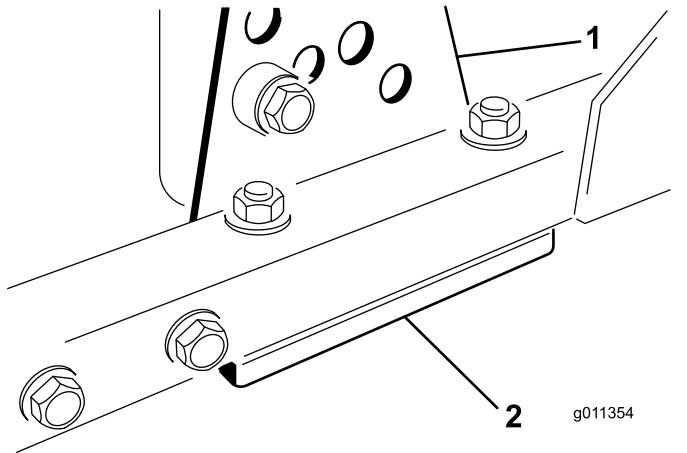

Figure 122
- Remove the height-of-cut bracket, (front, left, or right) from the cutting-unit frame (Figure 122).
- Adjust 1.5 mm (0.060 inch) shims and/or 0.7 mm (0.030 inch) shims between the cutting-unit frame and bracket to achieve the desired height setting (Figure 122).